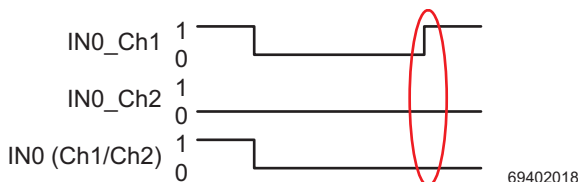

Figure 7-12 **Error** during signal change
In Figure 7-12, the condition that both signals must be in the opposite state before the change in state is not met. In this case, diagnostic message 018xhex is generated.
- A "1" is transmitted if a "1" signal is present at channel 1 of the input and a "0" signal is present at channel 2 of the input **and** no error has been detected and the conditions are met for a change in state according to Figure 7-12.